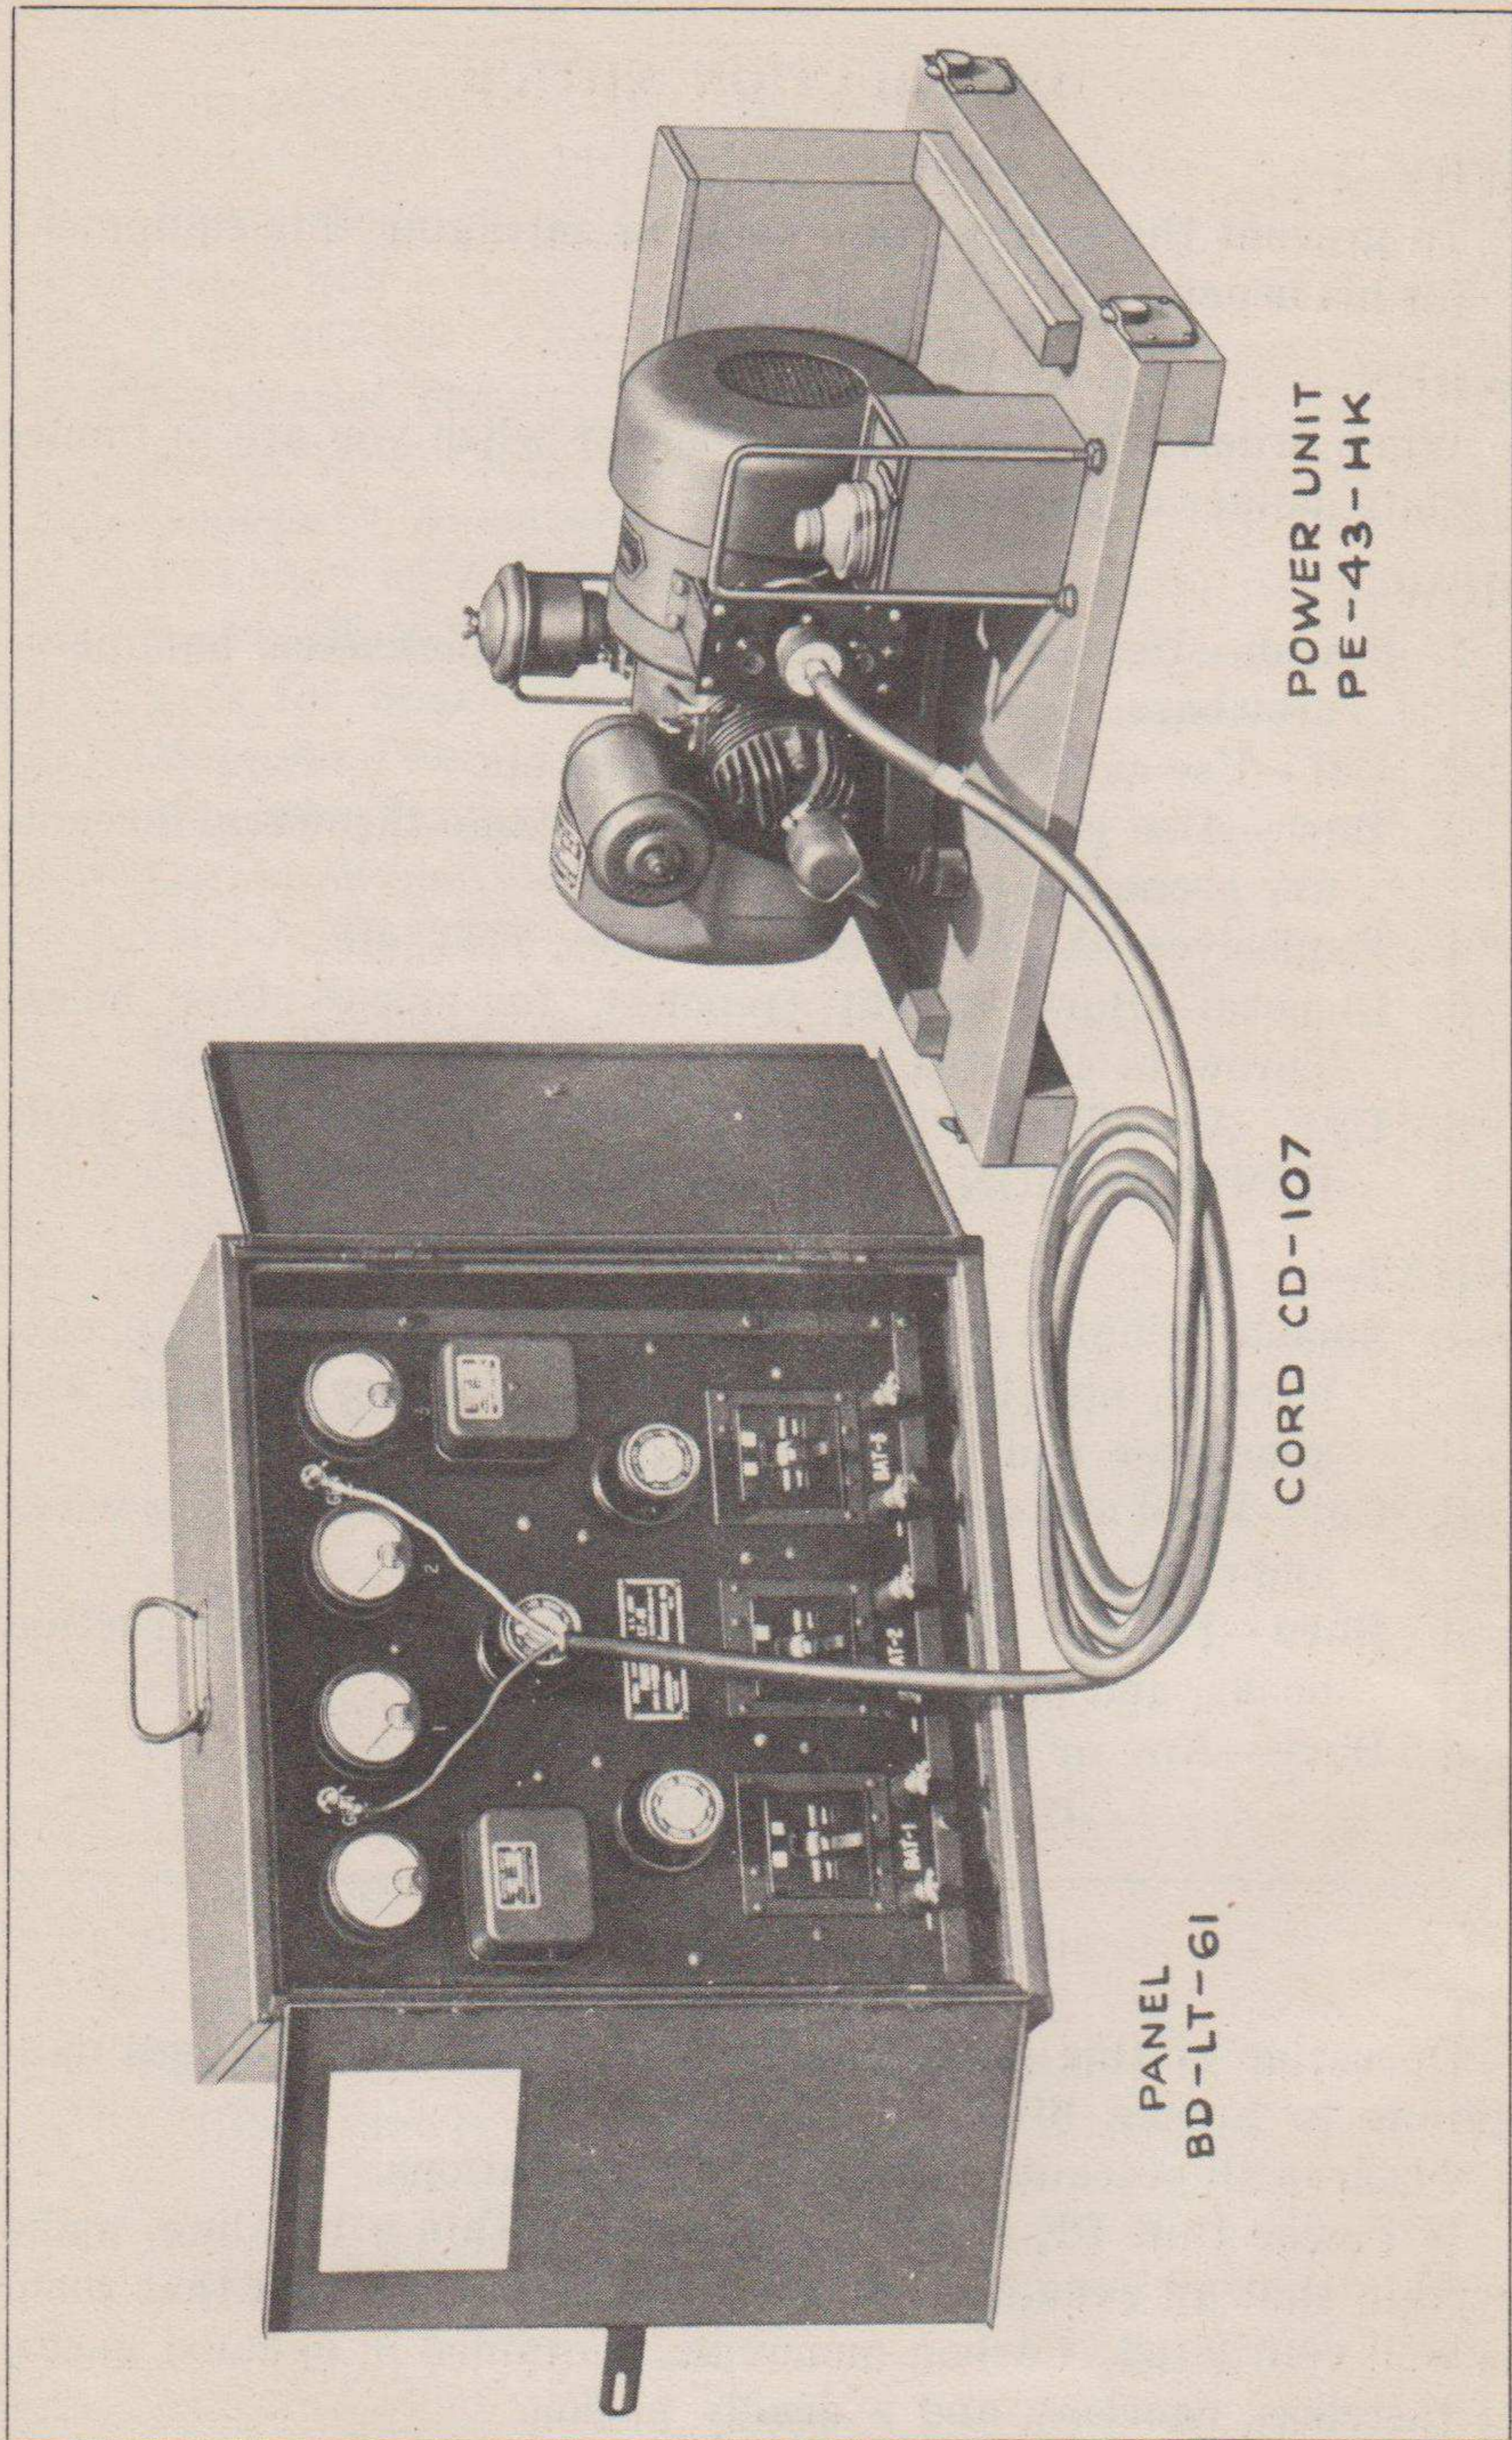

FIG. 1. CHARGING SET SCR-169
(1) Be sure it is properly connected with panel board (See paragraph 13, page 20, and Fig. 1, page 4).
(2) Be sure generator is not overloaded or short circuited for long periods of time. The generator will stand short periods of overload to 600 watts, but above that wattage the unit is apt to overheat and destroy the windings.